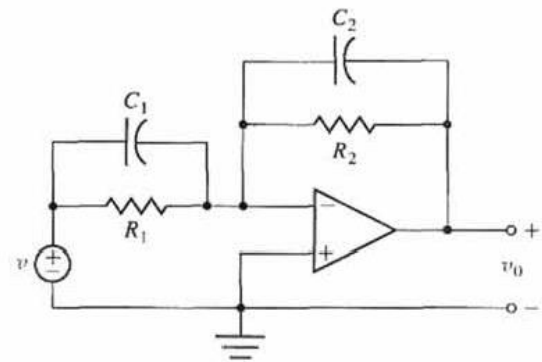

FIGURE E2.20 Op-amp circuit.
7. Determine the transfer function $V_o(s)/V(s)$ of the operational amplifier circuit shown in Figure E2.20. Assume an ideal operational amplifier. Determine the transfer function when $R_1 = R_2 = 100 \text{ k}\Omega$, $C_1 = 10 \text{ }\mu\text{F}$, and $C_2 = 5 \text{ }\mu\text{F}$.